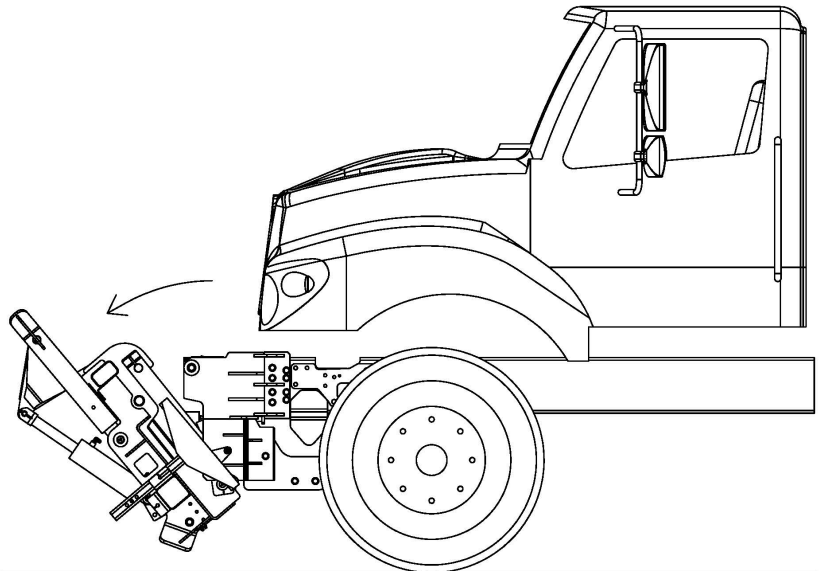

Figure 4: Harness Tilted
7. Tilt hitch forward. (See Figure 4, Note: Hitch will not tilt with the plow attached)